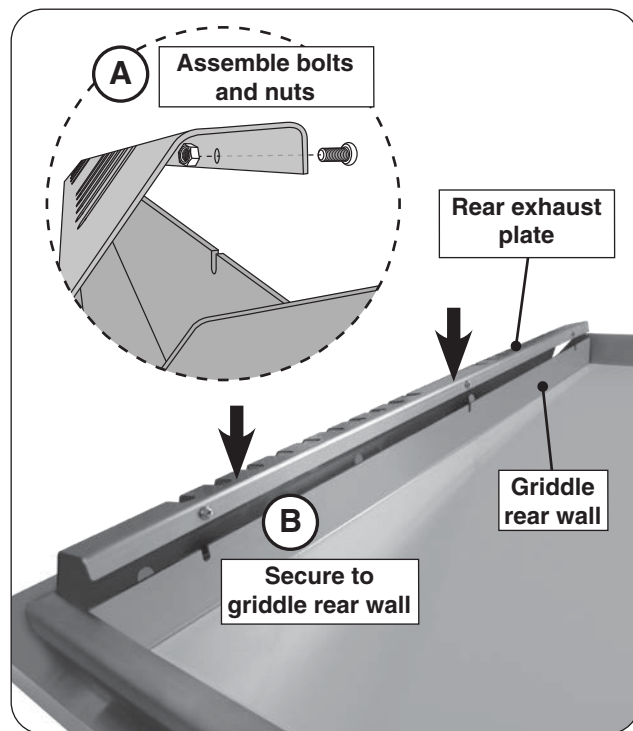

Fig. 19-1 Install rear exhaust plate
1. Assemble the provided bolts and nuts (loosely) to the three holes on the rear exhaust plate as shown in Fig. 19-1, A.
2. Align the exhaust plate with the three cutouts on the griddle rear wall and fasten (see Fig. 19-1, B).